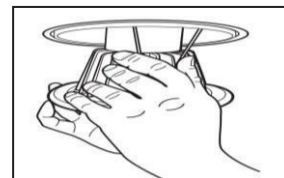

Figure 6
3. Once all connections are complete, squeeze each pair of torsion springs together and seat inside of brackets in fixture. Release springs, and gently push trim into fixture until flush with ceiling. (Figure 6)
5. Once all connections are complete, squeeze each pair of torsion springs together and place into brackets inside fixture. Releases springs, and gently push trim into fixture until flush with ceiling. (See Figure 6)